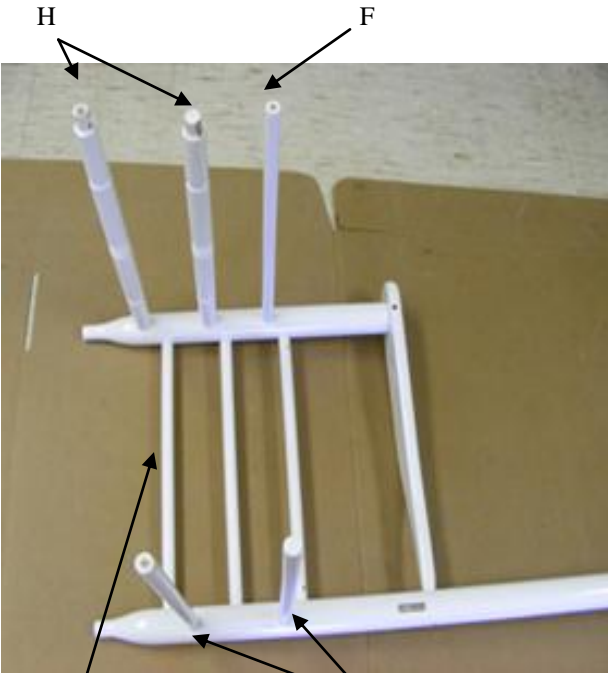

FIG. 1 G-L F H E
Lay Chair Side Left (G-L) with the holes facing up on the shipping box to protect the finish. Install Front Spindle (F) Turned Spindles (H), and Back Spindles (E) as shown in Figure 1.